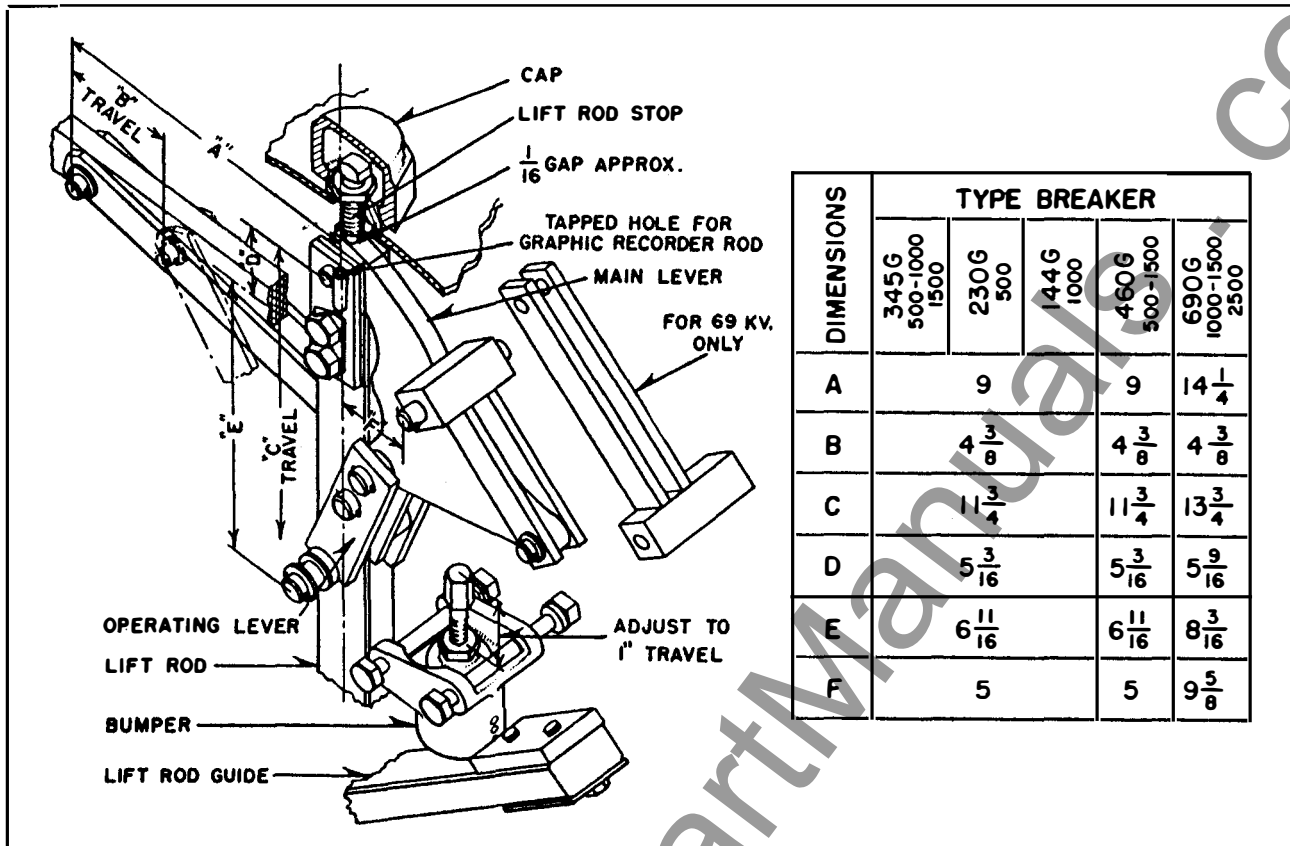

FIG. 9. Pole Unit Assemblies
4. The pole unit lever assemblies. These are an assembly of levers, designed to transfer horizontal motion of the pull rod into straight-line vertical motion of the lift rod. (See Fig. 9.)